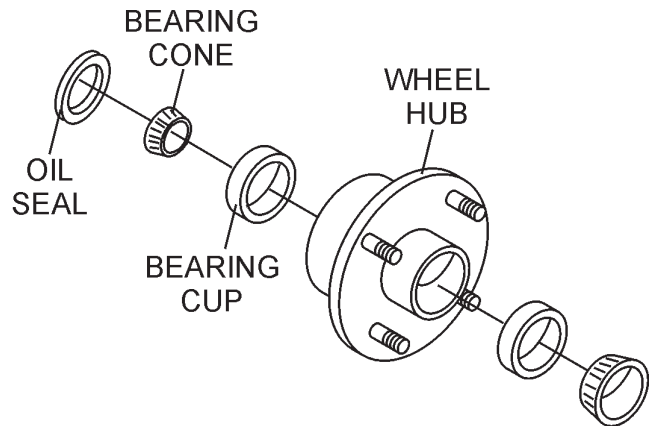

Figure 22. Wheel Hub and Bearings
1. After every 3 months of operation, remove the hub dust cap and inspect the wheel bearings (Figure 22). Once a year, or when required, disassemble the wheel hubs remove the old grease and repack the bearings forcing grease between rollers, cone and cage with a good grade of high speed wheel bearing grease (never use grease heavier than 265 A.S.T.M. penetration ("No. 2.")).
2. Fill the wheel hub (Figure 22) with grease to the inside diameter of the outer races and also fill the hub grease cap. Reassemble the hub and mount the wheel. Then tighten the adjusting nut, at the same time turn the wheel in both directions, until there is a slight bind to be sure all the bearing surfaces are in contact.